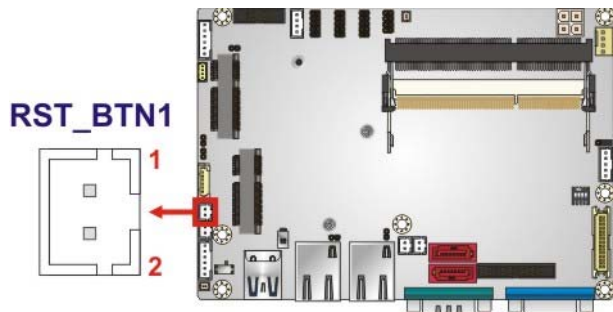

Figure 3-20: Reset Button Connector Location
- CN Location:** See **Figure 3-20**